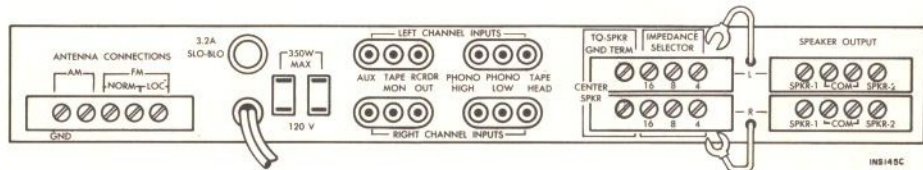

FIGURE 1. Tube layout and rear panel of the 800-C.
**ONE SPEAKER:** If you are using only one speaker, connect it to the SPKR-1 terminal and its adjacent COM terminal on the L terminal strip under SPEAKER OUTPUT (Figure 1). For distances of up to 50 feet, use ordinary power cord; for longer distances, use heavy-duty wire. The L (left) IMPEDANCE SELECTOR is used to match the output impedance of the 800-C to the impedance of your loudspeaker. The upper wire protruding from the rear panel next to the IMPEDANCE SELECTOR should be connected to the terminal marked "4," "8," or "16," depending on the impedance of your loudspeaker. *Be sure to turn the Balance control fully counterclockwise before turning on your 800-C.* The Balance control should be kept in the maximum counterclockwise position until a speaker is attached to the R speaker output terminals.